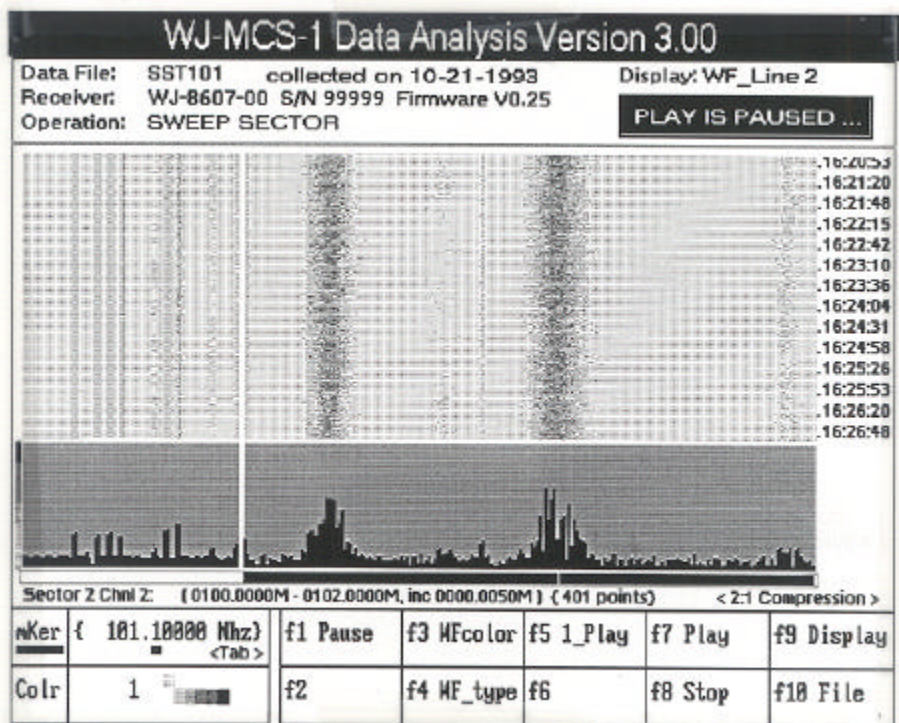

Figure I-38. DATA ANALYSIS WF_Line 2 Display
2. "WF_Line 2" - (Waterfall Line 2, shown in **Figure I-38**) uses a similar combination of two-dimensional and three-dimensional displays, the three-dimensional display being the same as WF_Line 1. While the two-dimensional display uses the same block format display as WF_Line 1, the peaks of the signal amplitude are color coded for easy recognition.